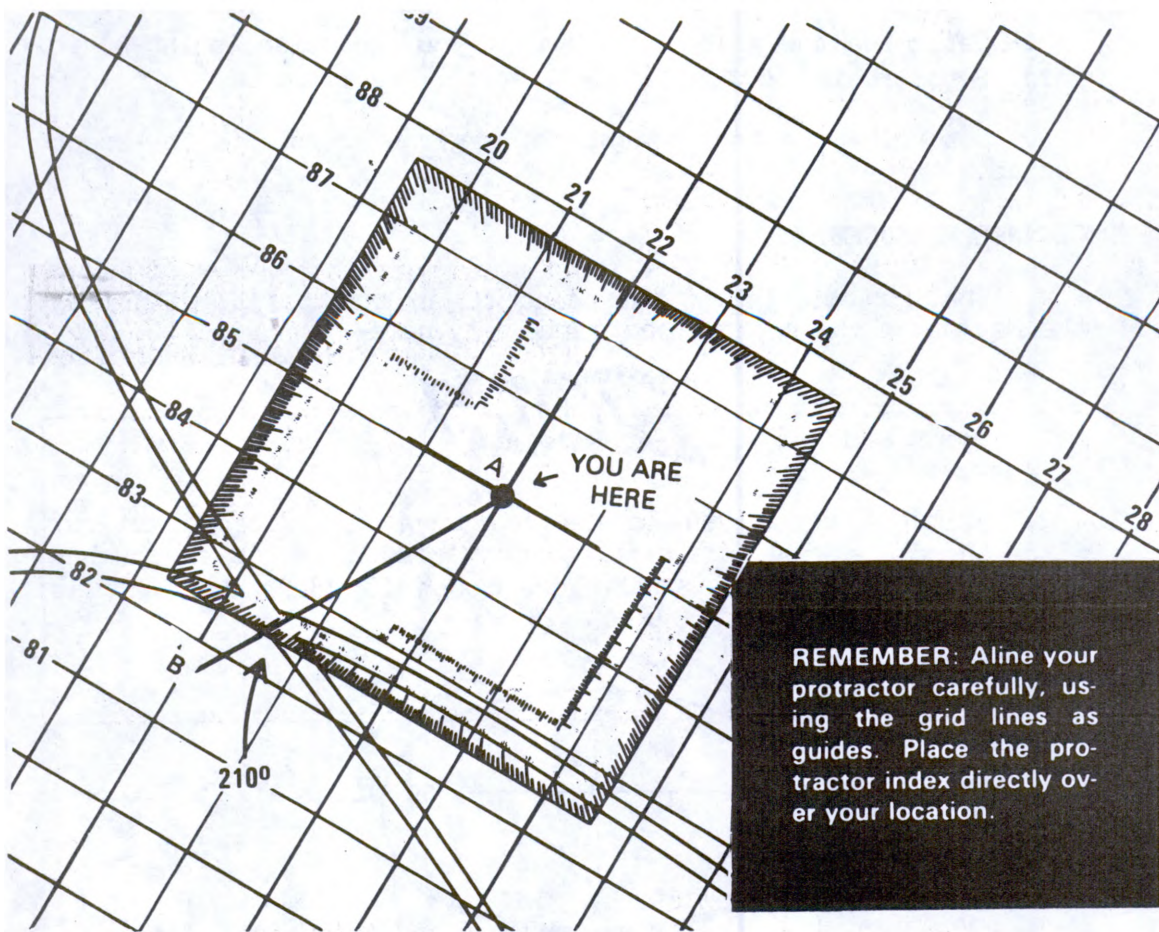

Figure 1
a. Determine your location (point A) and the location of the other point (B) on the map (see fig. 1).
Suppose you follow the 210° azimuth in figure 1 to the road junction, and then you want to go back to your original location. To do this, you take a BACK AZIMUTH. You simply subtract 180 from the first azimuth. Your back azimuth is $210 - 180 = 30^\circ$.